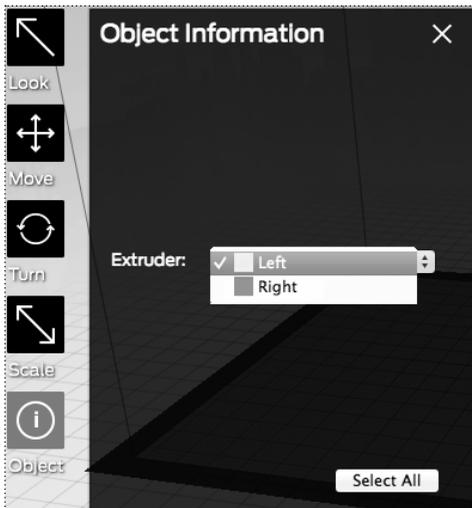

Fig. 9.4
12. In the Object Information submenu, in the Extruder field, select an extruder to print Lotus\_color1.stl. [Fig. 9.4]